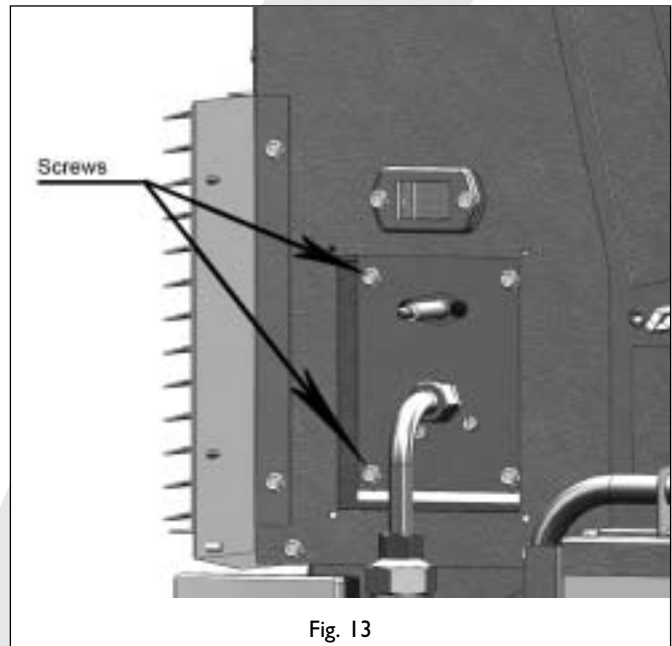

Fig. 13
- Take out the 4 screws of the burner; see fig 13.